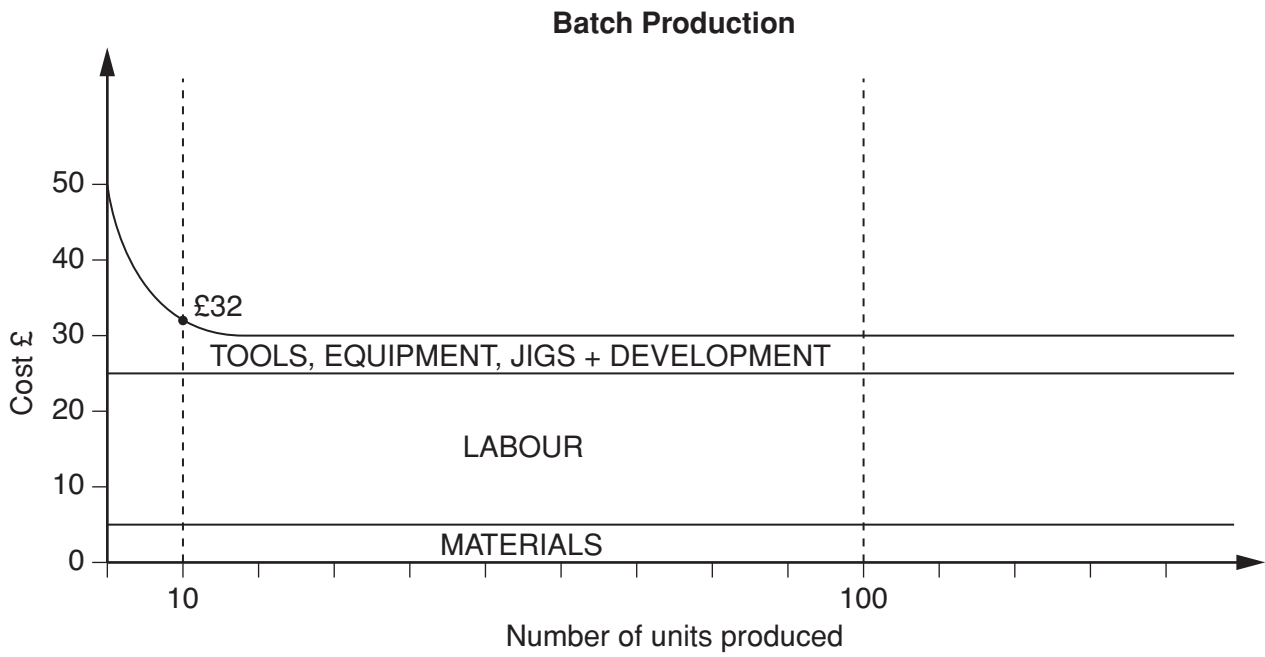
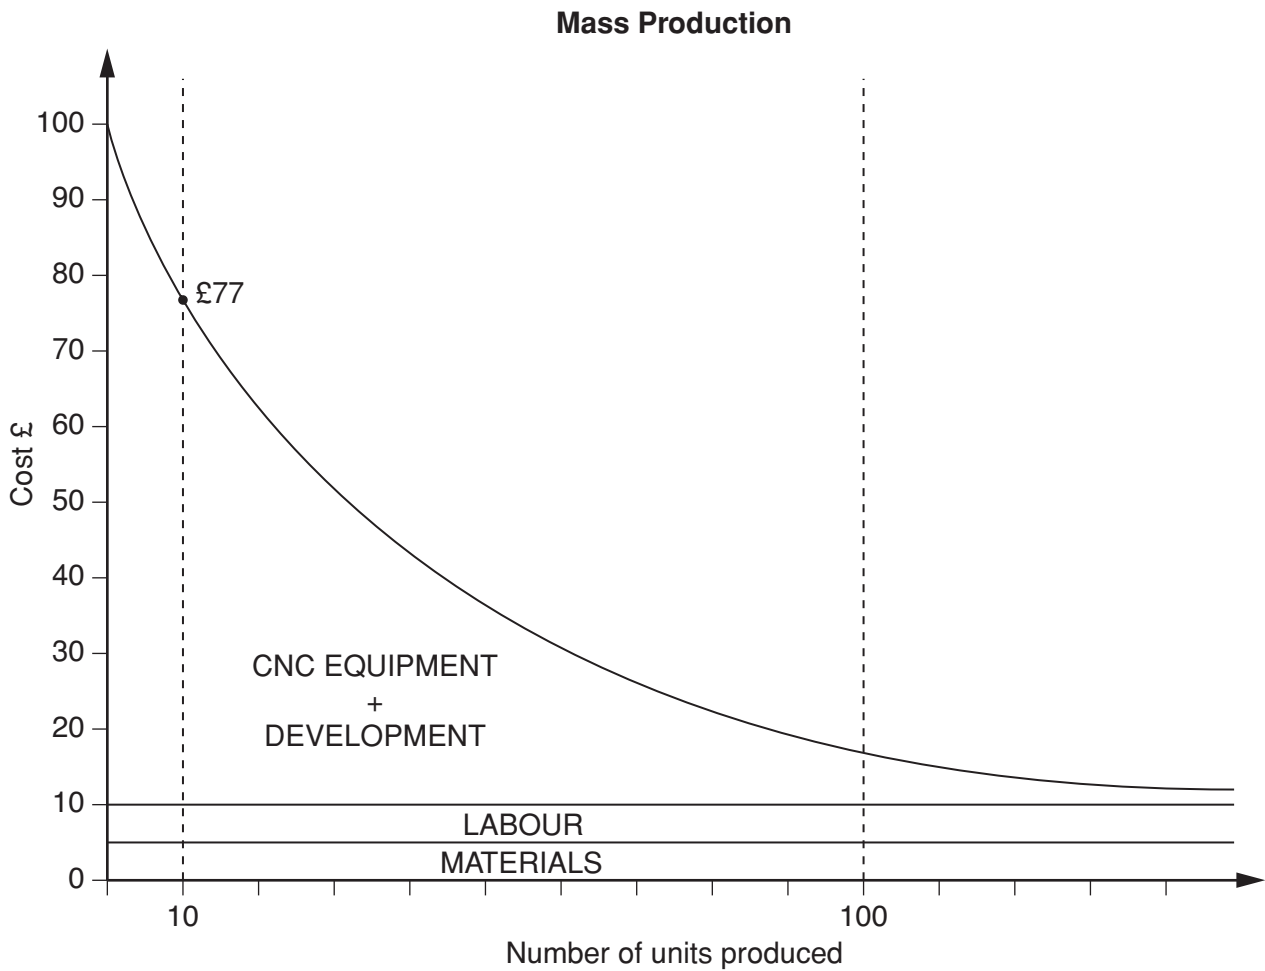

Fig. 10a
Fig. 10b
- 5 Figs 10a and 10b show the costs of manufacturing products by Batch Production and Mass Production.
(a) State **two** fixed costs shown on the graphs in Figs 10a and 10b.
(b) Fig. 10a shows that it costs £32 to produce the first 10 units by batch production. Fig. 10b shows that it costs £77 for the first 10 units using mass production. Explain why it is more expensive to mass produce the first ten units.